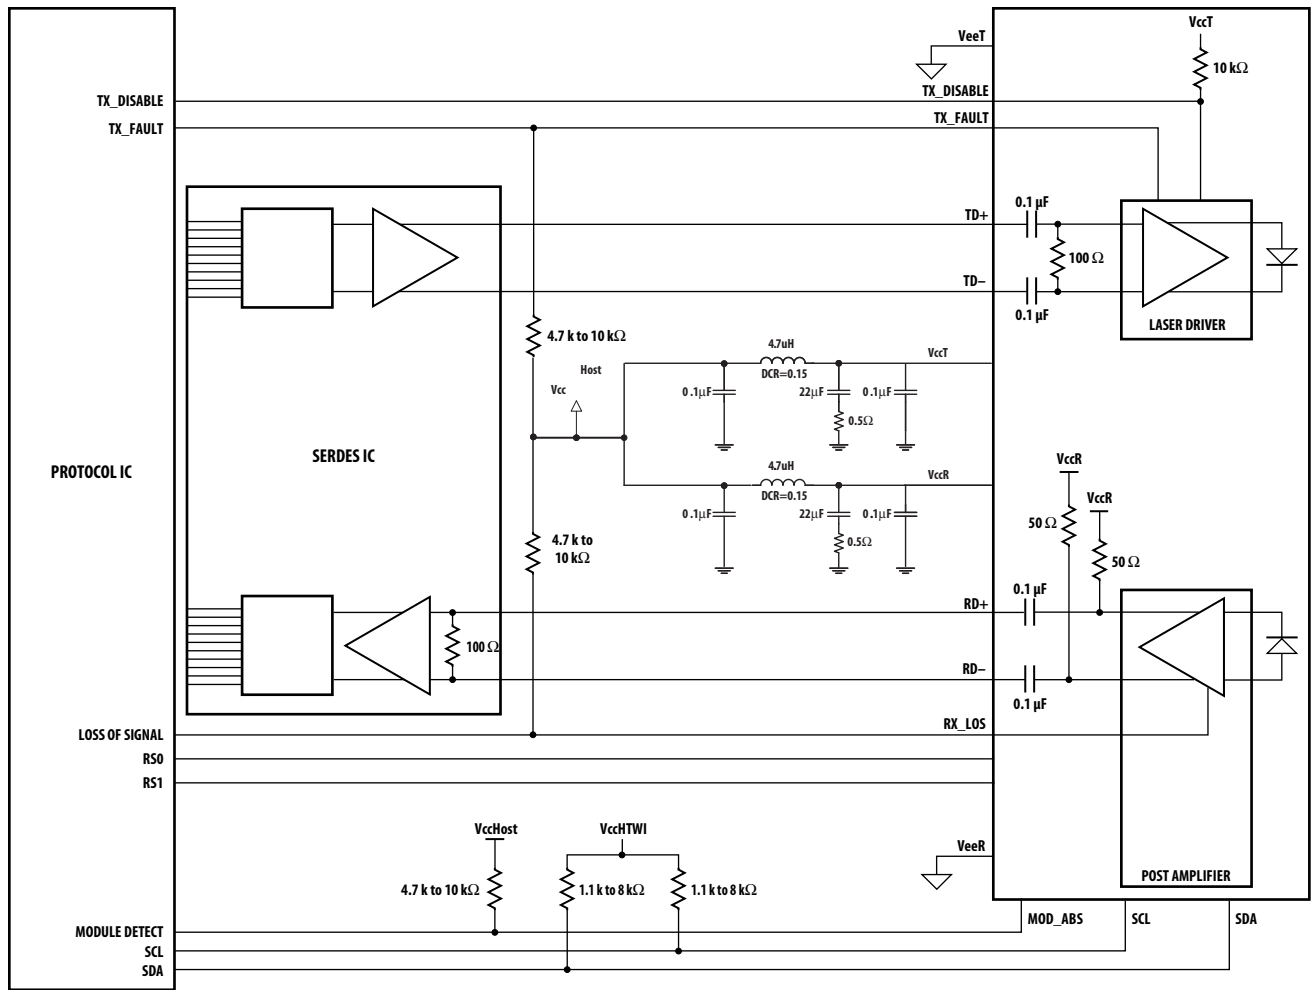

Figure 2. Typical application configuration
Figure 2 depicts the recommended interface circuit to link the AFCT-701ASDZ to supporting physical layer ICs. Timing for the dedicated SFP+ control signals implemented in the transceiver are listed in Figure 6.
2. This is an open collector/drain output that on the host board requires a 4.7 kΩ to 10 kΩ pullup resistor to VccHost. See Figure 2.